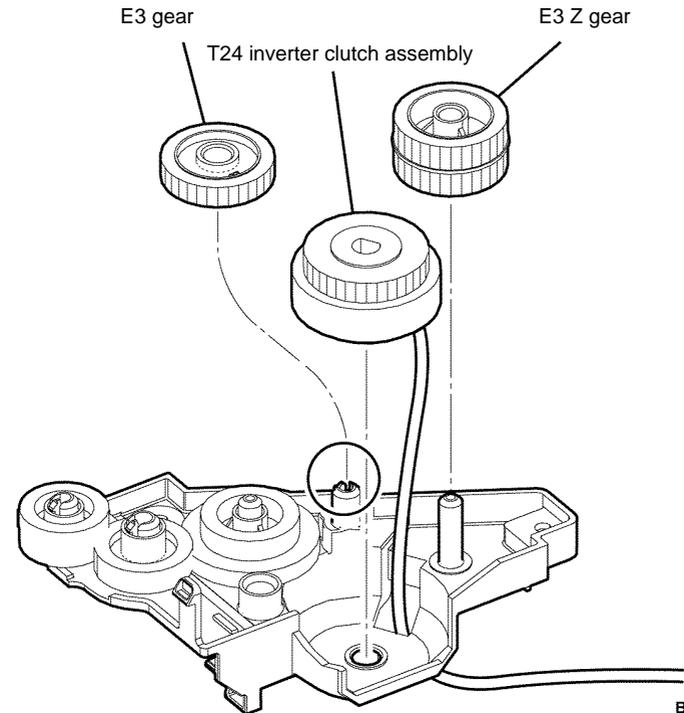

Figure 5 T24 inverter clutch assembly removal
21. Release the hook that fixes the E3 gear to the exit out drive holder assembly. Remove the E3 gear and E3 Z gear. Remove the T24 inverter clutch assembly, **Figure 5**.
22. Remove the T24 inverter clutch assembly, **Figure 5**.